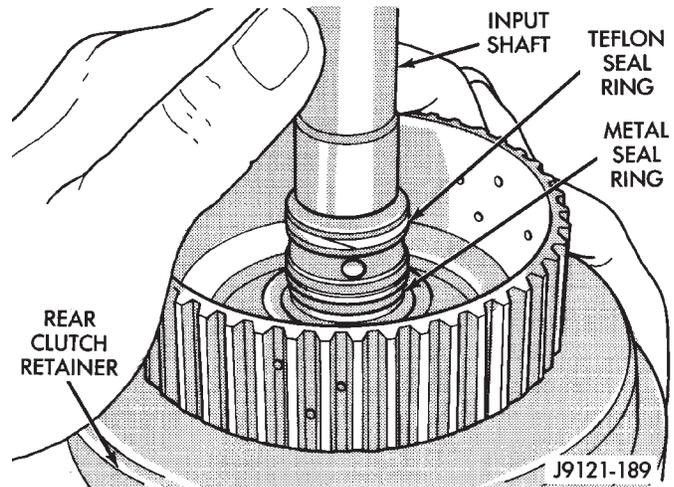

Fig. 140 Input Shaft Seal Ring Location
(11) Check seal ring on rear clutch retainer hub and seal rings on input shaft (Fig. 140). Also verify that shaft seal rings are installed in sequence shown.